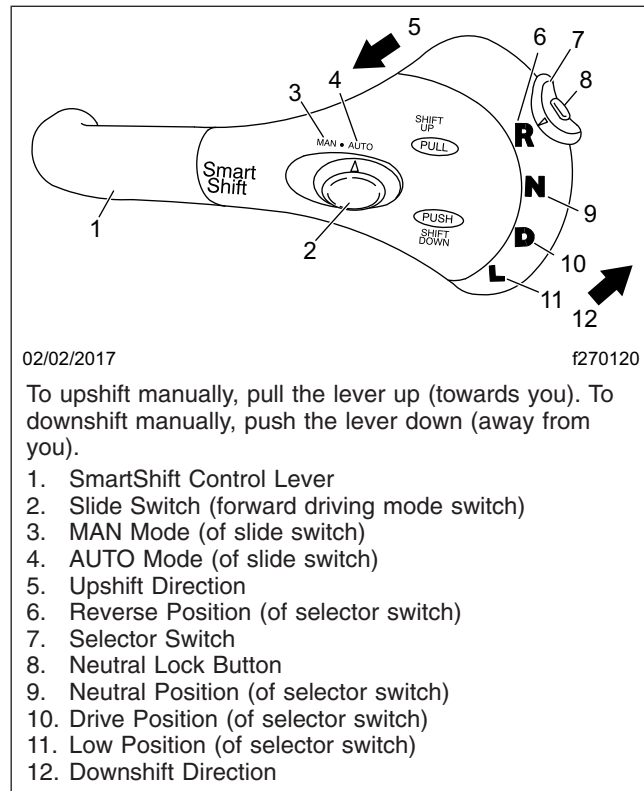

Fig. 15.6, SmartShift Control (Eaton Fuller UltraShift PLUS, and AutoShift Transmissions)
A two-position slide switch (**Fig. 15.6**) is mounted on the body of the control lever just before the paddle widens out. The slide switch allows the driver to choose automatic (AUTO) or manual (MAN) mode.
For Eaton Fuller UltraShift PLUS, and AutoShift transmissions (**Fig. 15.6**), a four-position (R, N, D, L) selector switch is located at the end of the lever.
- The SmartShift control paddle on the steering column. See Fig. 15.6.
A two-position slide switch (forward driving mode switch) is located near the end of the control (Fig. 15.6). The switch positions are labelled MAN (manual shift mode) and AUTO (automatic drive mode).
Eaton Fuller UltraShift PLUS automated transmissions use shift selection software and electric clutch actuation; a clutch pedal is not needed to operate the vehicle. These transmissions use the four-position SmartShift control (see Fig. 15.6) on the steering column to select mode, direction, neutral, low, and to make manual shifts. To know what gear the transmission is in, see the current gear indicator on the dash. Forward shifts can be made either manually or automatically.